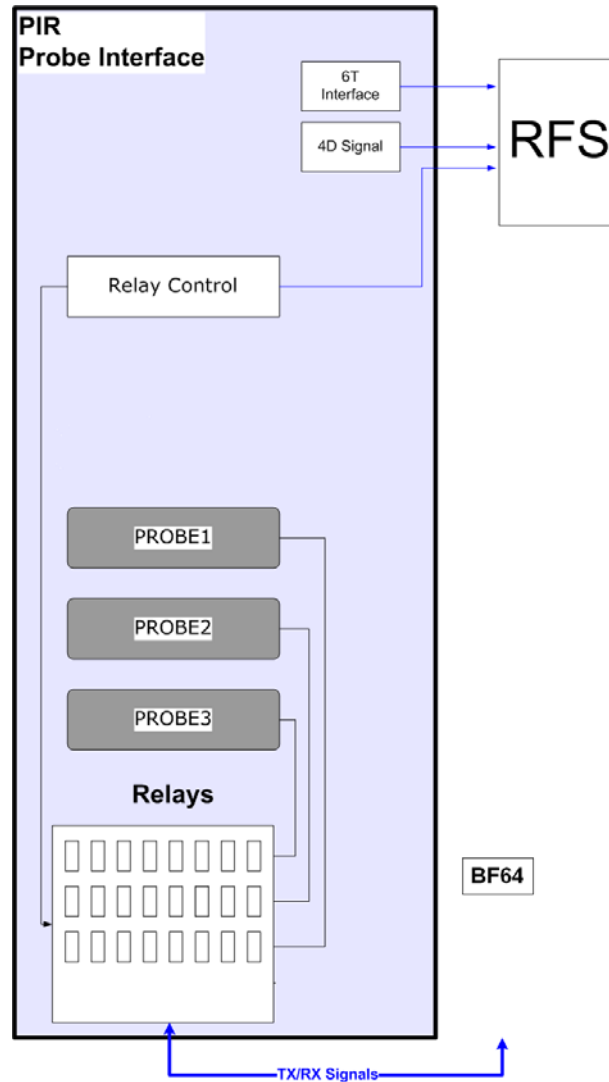

Figure 5-7 PIR - Blockdiagram
- *Figure 5-7: PIR - Blockdiagram*